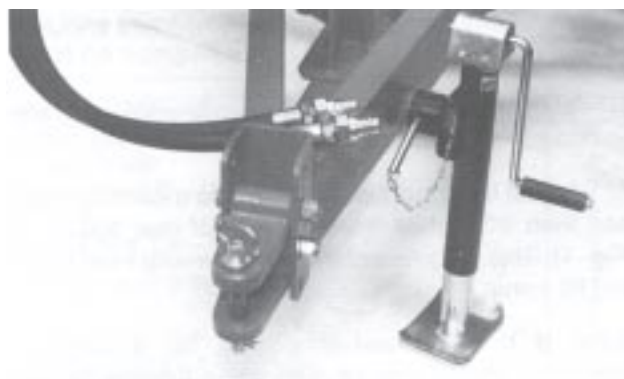

Figure 3
- Raise front of frame and slide jack onto mounting tube aligning mounting holes in jack with holes in mounting tube. Secure with pin. (Fig. 3).